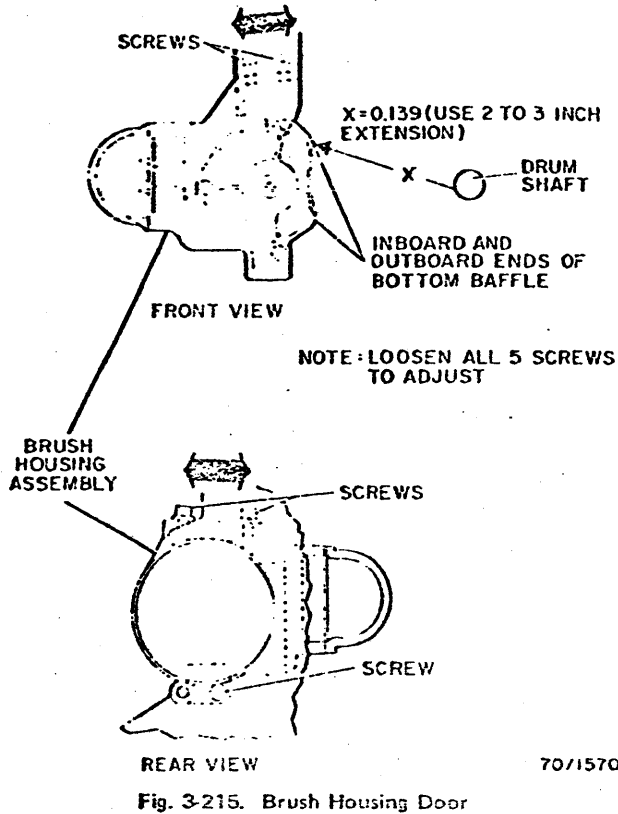

Fig. 3-215. Brush Housing Door
1. Loosen the three captive screws (Fig. 3-215) and lift off the brush housing door assembly.
2. Adjust the housing to the dimension shown in Fig. 3-215.